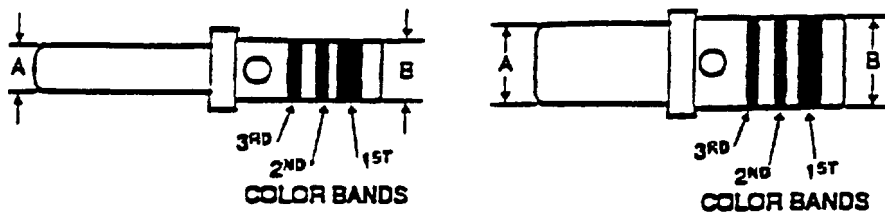

Figure 15. External Contact
29. EXTERNAL CONTACT (Figure 15). Series I blocks require a MIL-C-39029 pin contact and Series II requires a socket contact crimped to the wire. Table 1 specifies the contact types and related conductor size ranges for each series. Table 2 specifies crimp, installing, and removal tools for each series.